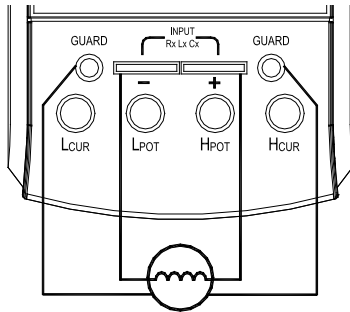

Figure 8
- a. Insert the measured inductance into the input terminal directly (shown in figure 8);